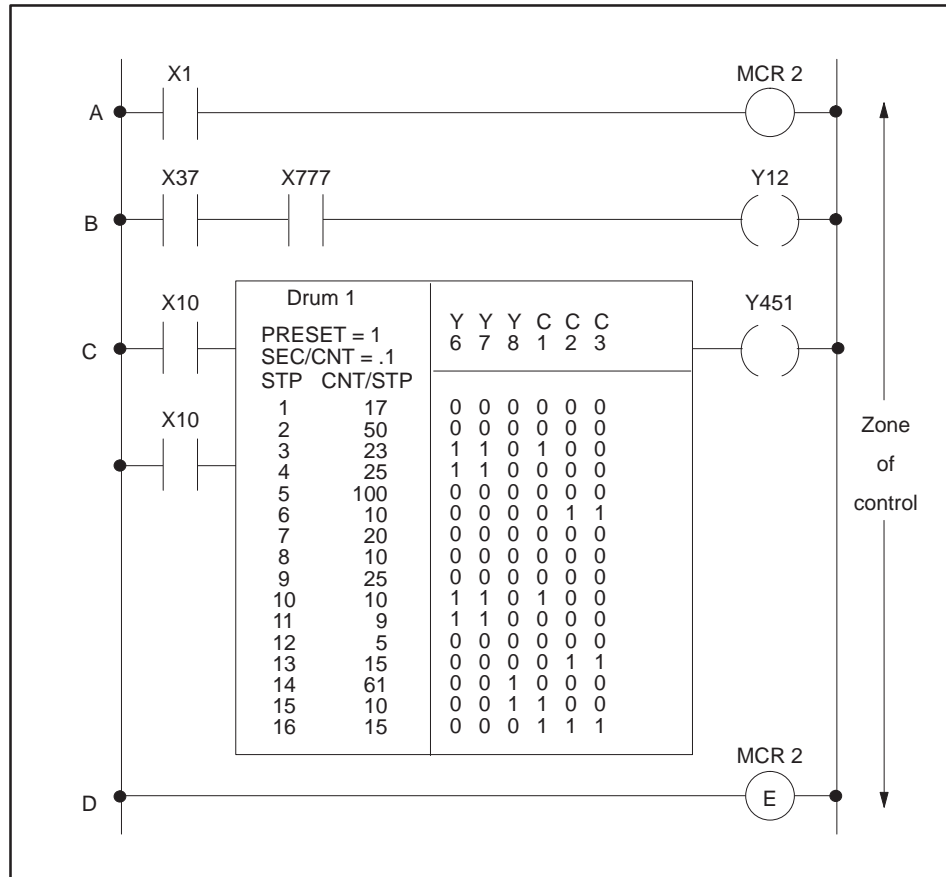

Figure 6-39 Example of the MCR Zone of Control
In Figure 6-39, an MCR is located on rung A, and its zone of control is terminated by the End Master Control Relay MCRE on rung D.
- Any Ys and Cs contained within an instruction, e.g., a drum, also turn off. In Figure 6-39, when the MCR2 loses power flow, Y6, Y7, Y8, C1, C2, and C3, as well as Y12 and Y451, turn off.